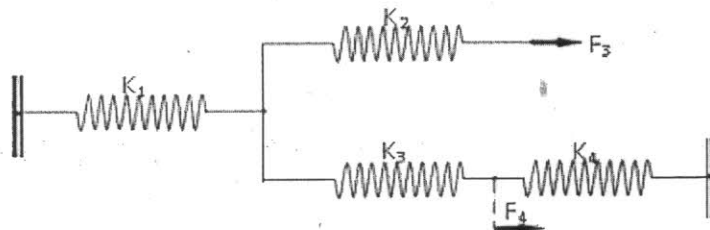

Fig 2b
- b) Define Principle of minimum potential energy. Find $\{F\} = [K]\{Q\}$ relationship for the Spring system shown in Fig.2b by applying minimum potential energy principle.